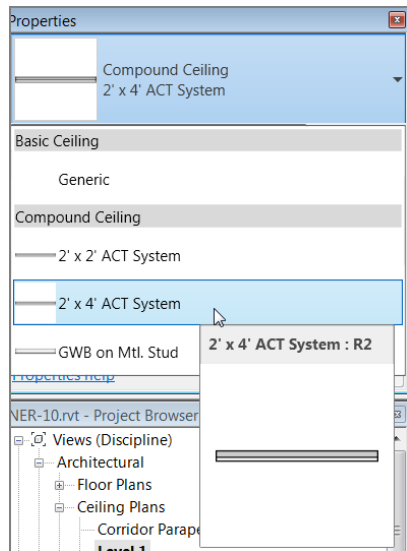

FIGURE 9.2: The available ceiling types listed in the Type Selector
3. With the Ceiling command active, choose 2' × 4' ACT System (600mm × 1200mm Grid) from the Type Selector, as shown in Figure 9.2.